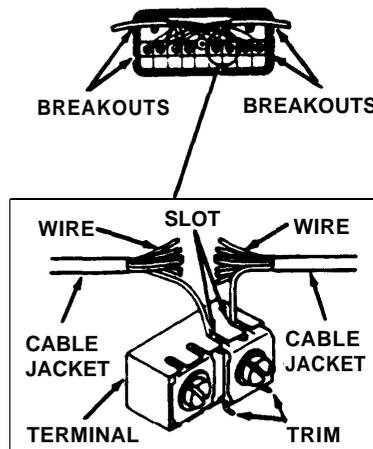

Figure 2
3. With a pair of pliers, remove a breakout from each side of the connecting block to allow the cables to pass into and out of the connecting block in the directions you want (see Figure 2).